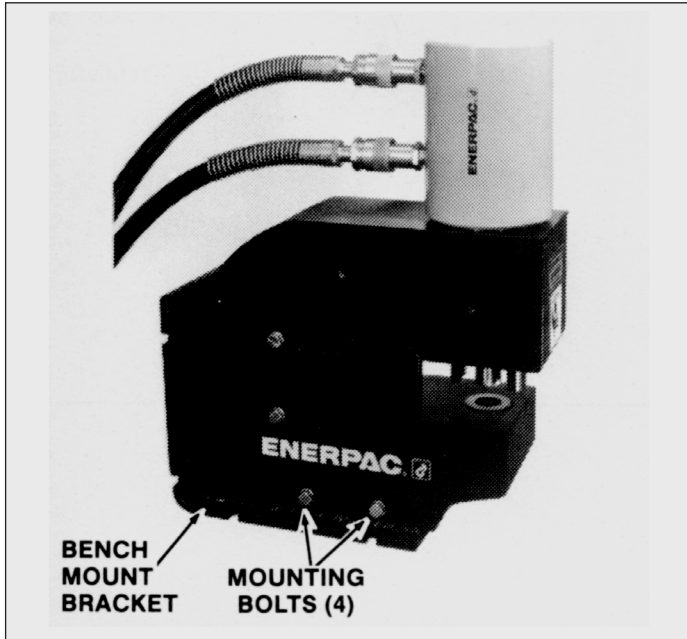

Figure 4
- Position the bench bracket under the punch base. Install four capscrews and lockwashers (two on each side) in the bracket holes, tighten to 20 ft. lb. (figure 4).